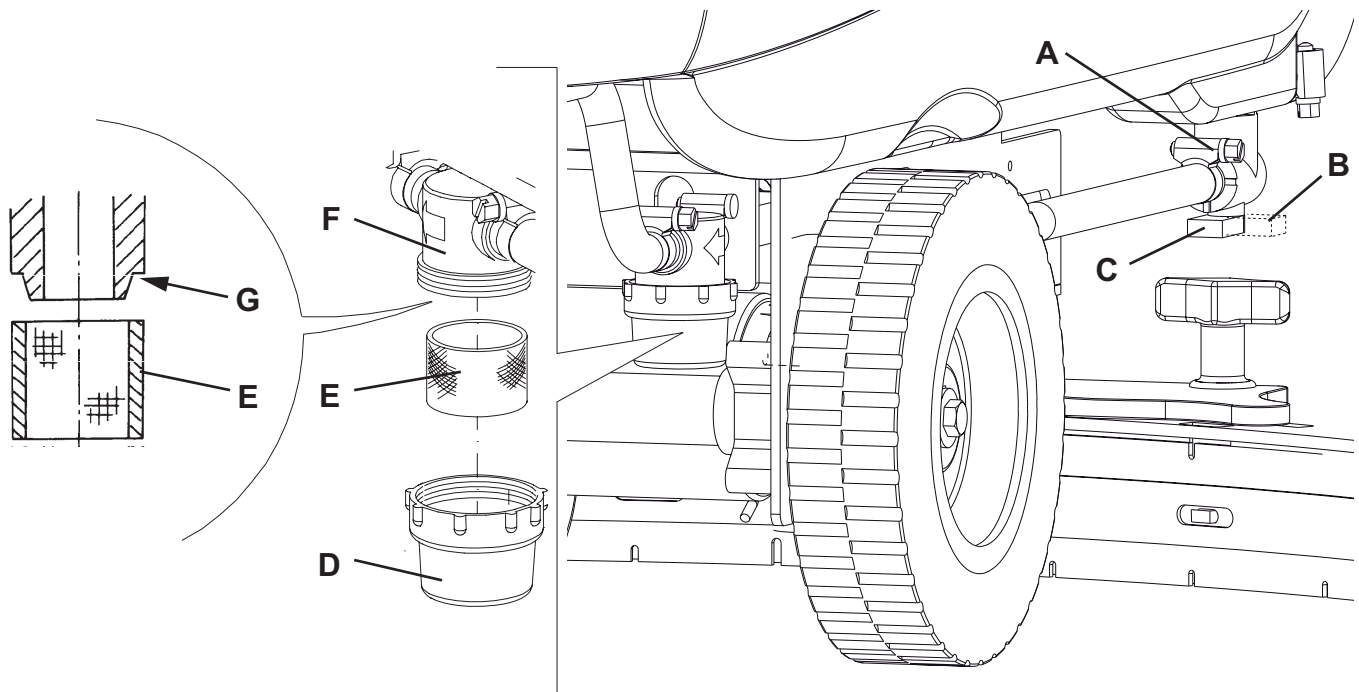

Figure 6
3. Close the solution tap (A, Fig. 6) under the machine, behind the right rear wheel. The tap (A) is closed when it is on the position (B) and it is open when it is on the position (C).
4. Remove the transparent cover (D), then remove the filter strainer (E). Clean and install them on the support (F).